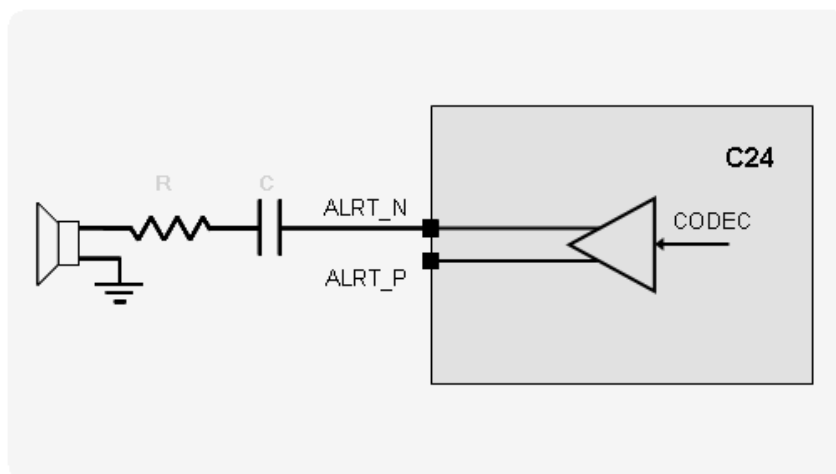

Figure 2-20: Single-ended Loudspeaker Circuit
**Important:** When implementing a single ended loudspeaker design, it is required to place a series capacitor and resistor on the alert output line, as illustrated in Figure 2-20. The capacitor should be of low tolerance with values of  $C = 10\text{-}22\ \mu\text{F}$ . The resistor value should be  $R = 0\ \Omega$  at the design stage, but may be changed to a different value during audio safety testing, in case that alert level limitation is required.